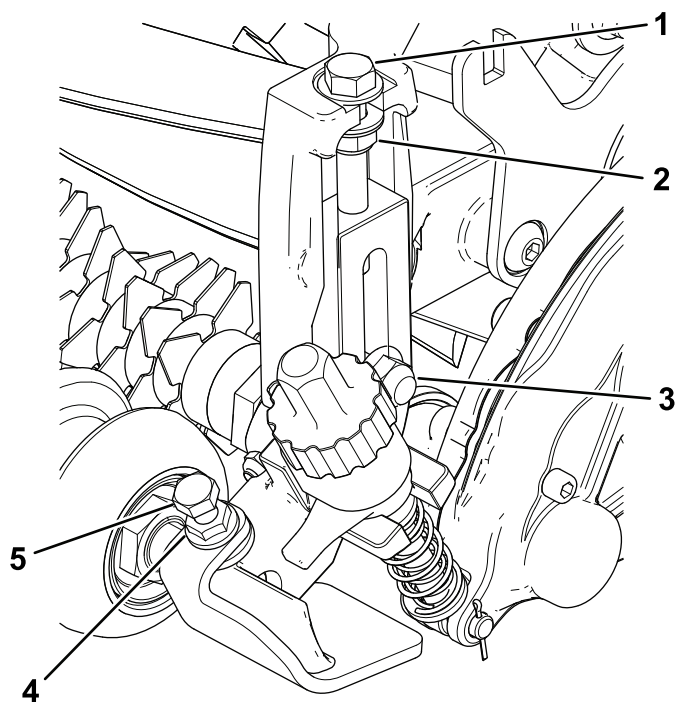

Figure 13
4. Tighten the carriage bolts and locknuts securing the HOC bracket assemblies to the side plates (Figure 13).
5. Tighten the locknut on the HOC adjuster bolt, then back off the locknut 1/2 turn (Figure 13).
6. Center the front roller between the HOC bracket assemblies and lock it in place with the cap screws and flange nuts (Figure 13).